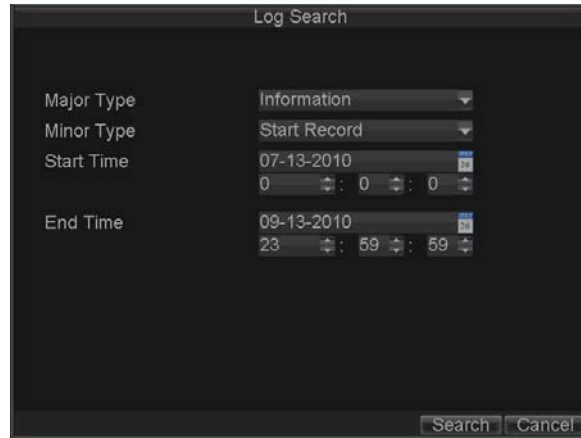

Figure 11. Log Search Menu
1. Click Menu > Maintenance > Log Search to enter the Log Search dialog box, shown in Figure 11.